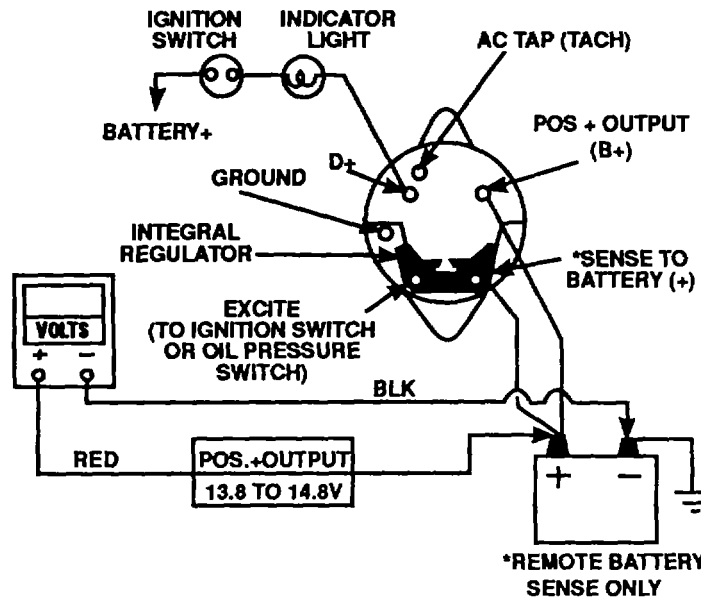

Figure 3-41. Alternator Output Test
1. Connect multimeter as shown (figure 3-41).